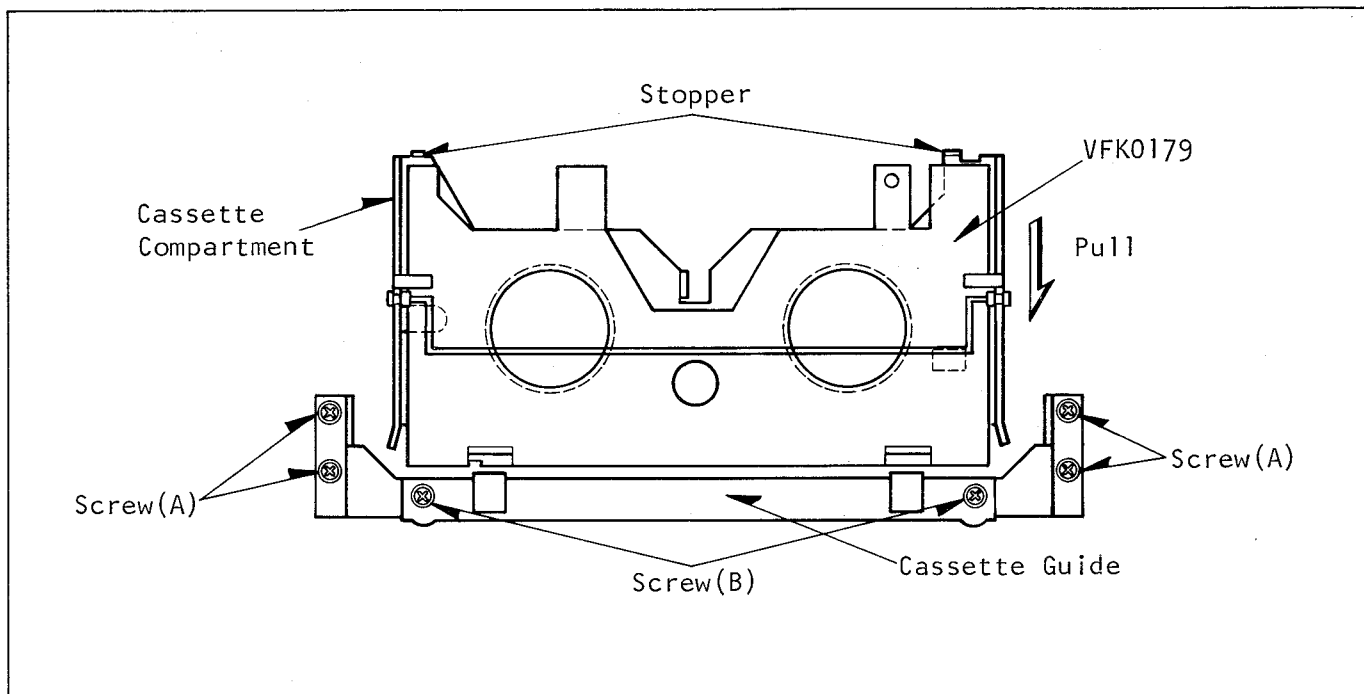

Fig.M67. Adjustment of Cassette Compartment
5. Confirm the clearance between the Cassette Guide and the Fixture. And if it is out of the specification, loosen the 2 screws (B) shown in Fig. M67 and adjust the position of the Cassette Guide to obtain the specified clearance.
8. Repeat the above items 6 and 7 to reconfirm.